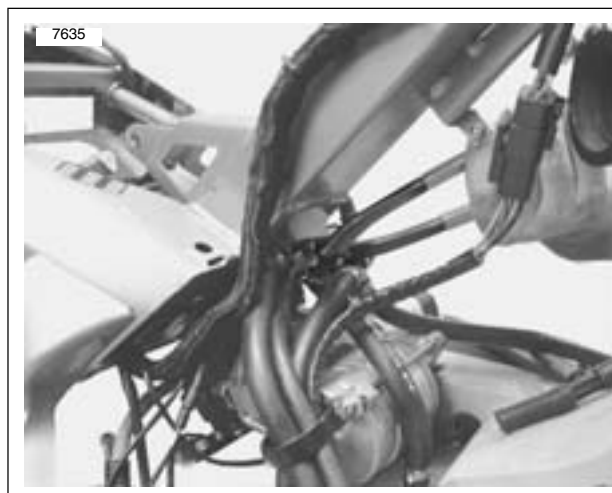

Figure 3-30. Tighten Hose Clamps
12. See Figure 3-30. Tighten hose clamps using Hose Clamp Pliers, part no. HD-41137.